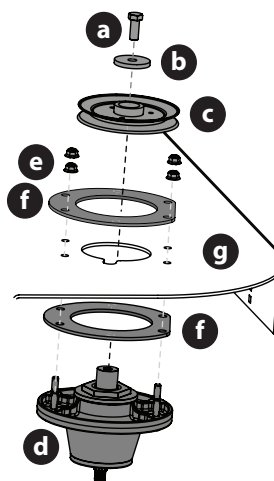

Figure 24
6. Remove the hex lock screw (a) and flat washer (b) securing the spindle pulley (c) to the spindle assembly (d) (Figure 24).
7. Remove the four (4) flange lock nuts (e) securing the spindle assembly (d) and the two support plates (f) to the deck shell (g) (Figure 24).
8. Reverse the process to install the spindle assembly. When installing the new spindle assembly be sure to install the hardware exactly (Figure 24). Torque the hex lock screws (a) to 90-110 ft-lbs and the flange lock nuts (e) to 13-20 ft-lbs.